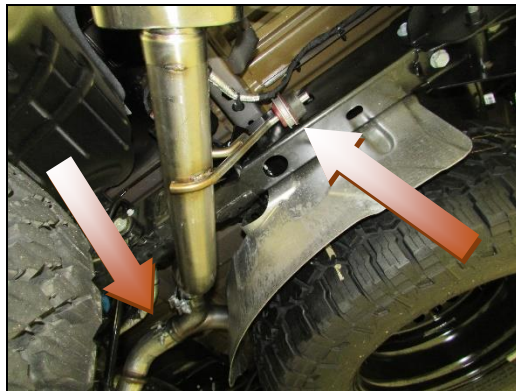

Figure 10
3. Install the left side Blackheart tailpipe to the OE exhaust. Now install the (x2) bolts and tighten up the OE rubber isolator (**Figure 10**).